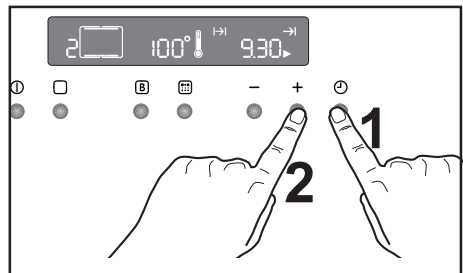

Fig. 11
- 2) Press button ⌚ until the "End of Cooking" function →| is selected and the relevant symbol flashes. The control panel will display the end of cooking time (that is, the actual time + cooking duration time - Fig. 11).